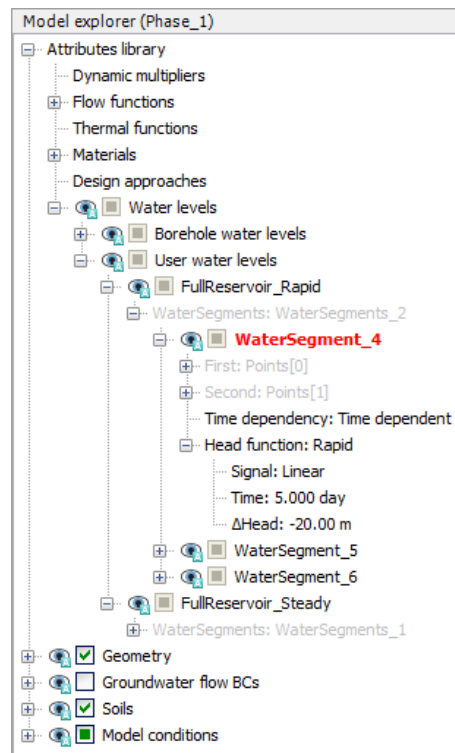

Figure 180: Properties of the lowering water segment
- Figure 180 (on page 206) shows the selected water segment in **Model explorer**.